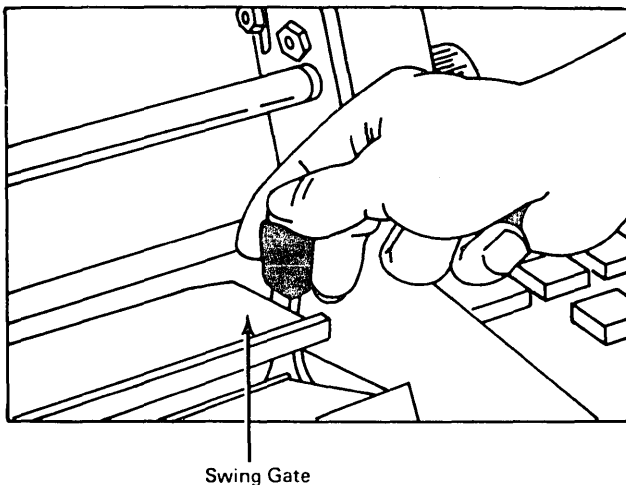

Figure 21. Opening the Swing Gate
1. Raise the printer cover. Pull the swing gate locking lever (Figure 21) toward you and open the swing gate.